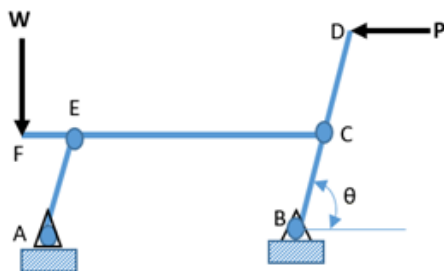

Fig. 3
3. A structure with pin joined member is shown in Fig. 3. Here, $BD = 100$ cm, $BC = AE = 50$ cm, $AB = CE = 120$ cm. Using the principle of virtual work, determine the ratio of P/W if angle $\theta = 60^\circ$. Neglect the friction at the joints and weight of the members.